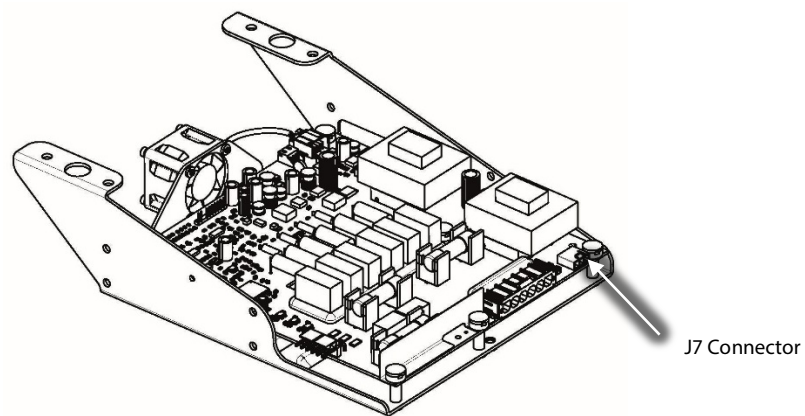

Figure 16 – Soft Start J7 Connector
9. The Open Frame DC-DC Converter no longer uses the 15VAC trigger signal from the Soft Start. Disconnect the cable from the Soft Start (J7). Refer to Figure 16 (Soft Start J7 Connector).